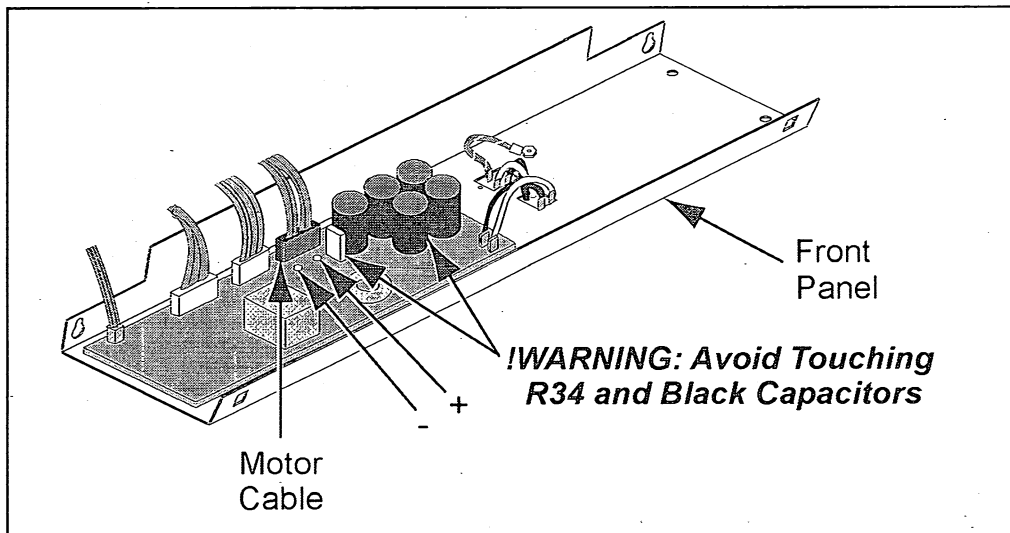

Figure 1
A. While the treadmill is still fully elevated and running turn the main power switch to the off (O) position.
C. Avoid touching R34 and the black capacitors. Disconnect the motor cable. See Figure 1.
- A. Avoid touching R34 and the black capacitors. Connect the motor cable. See Figure 1.
- B. Turn the main power switch to the on (I) position.
- C. Touch the voltage meter leads to the lower board + and - solder points. See Figure 1. Touch the red lead to positive, and the black lead to negative. On a 115V unit the motor voltage at 10 mph (16 kph) with no load should not go below 83 VDC. On a 220V unit the motor voltage at